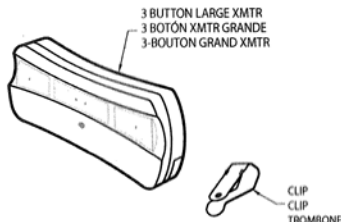

Fig. 2
- Step 5-1** Battery replacement **Fig. 2**.